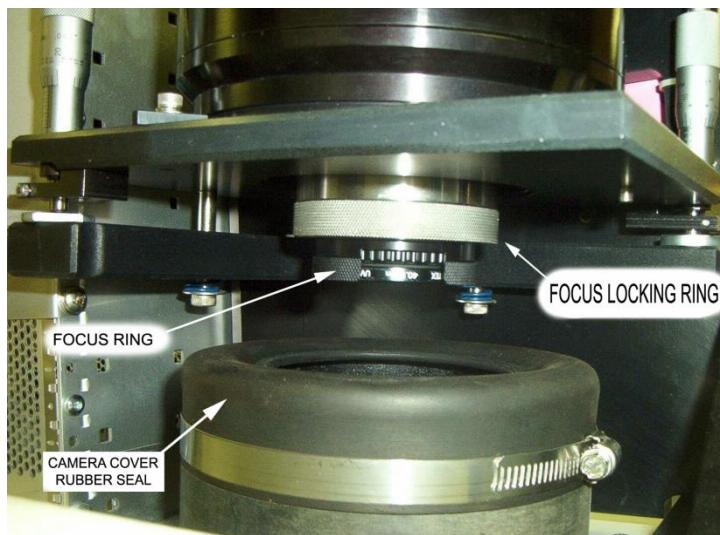

Figure 6.10a Nikon Camera Focusing
- 8) **Nikon Lens:** Grasp the focus locking ring (Figure 6.10a) of camera A and rotate it counterclockwise sufficiently to release the inner knurled focus ring.
- 13) Replace the lens covers by pushing them from the underside of the tilted scanner completely through the camera rubber seals (Figure 6.10a) into position. Then from above, push the rubber seals down the covers until they fall into the cover's retaining grooves. Tighten the covers by rotating clockwise.